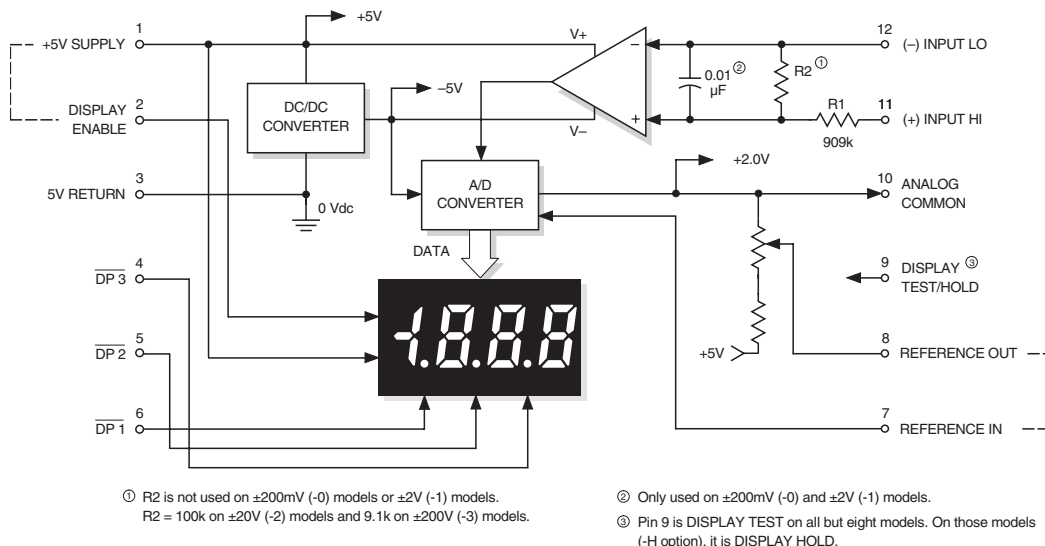

Figure 1. DMS-20PC Series Simplified Schematic
① Applies for transient or continuous overvoltages applied to (+) INPUT HI (pin 11) with (-) INPUT LO (pin 12) properly connected. Pin 12 is not overvoltage protected (see Figure 1). Voltages applied to pin 12 should not exceed the supply voltage.
② See Technical Notes.
③ The DISPLAY HOLD function is optional on standard red and green LED models only. See Ordering Information.